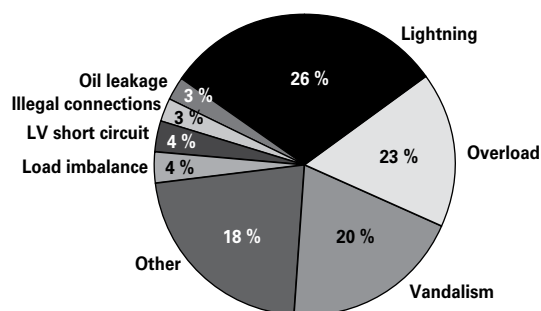

Figure 5: Statistics for the reasons for transformer failure.
- o **Transformer failure:** This is a multifaceted problem that has many causes. These include vandalism, illegal connections which lead to overload, lightening and LV short circuit. From January to April 2013, 345 transformers had failed. 87 of those were due to lightening, 78 due to overload and 70 due to vandalism. *Figure 5* shows how much each cause contributes to the problem